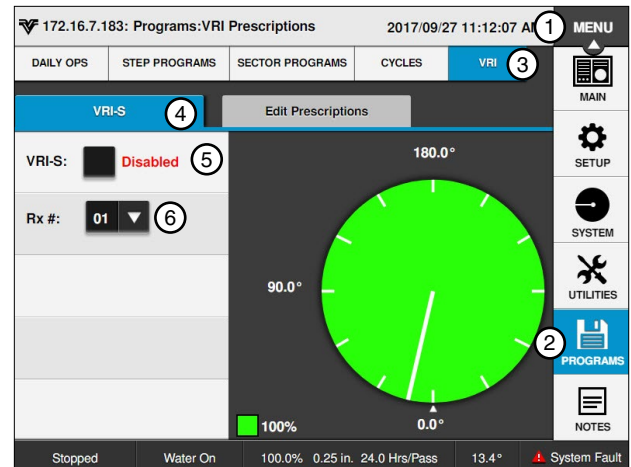

Figure 159-1 1. Menu
The Configure Prescription button is used to select, edit, review, and load prescription numbers and sectors. Push **Menu**, **Programs**, **VRI-S**, and **Edit Prescriptions** to view the Edit Prescriptions screen. Refer to Figures 159-1 and 159-2.
1. Push **Menu**, **Programs**, **VRI**, and **VRI-S** to display the VRI-S screen. Refer to Figure 159-1.